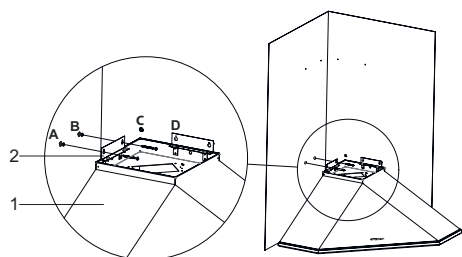

Fig. 14
- Hold the product by its body and hang it on the A,B,C,D points from the hanger plates (2) and tighten all the screws (Fig. 14).